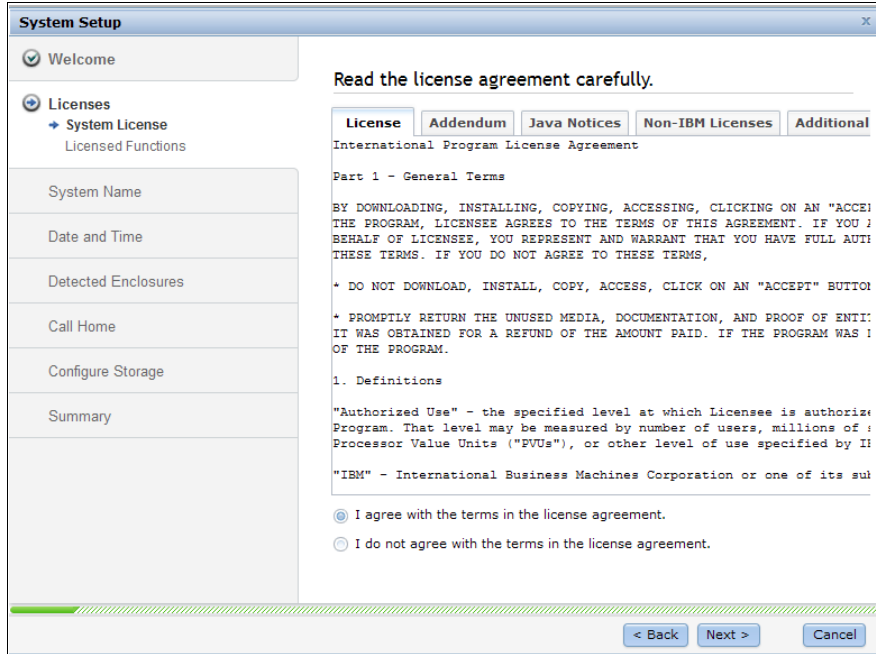

Figure 4-15 Setup wizard - License Agreement
2. You must read and accept the license agreement to be able to continue this initial setup process as shown in Figure 4-15. Click **Next** after accepting the licence agreement.